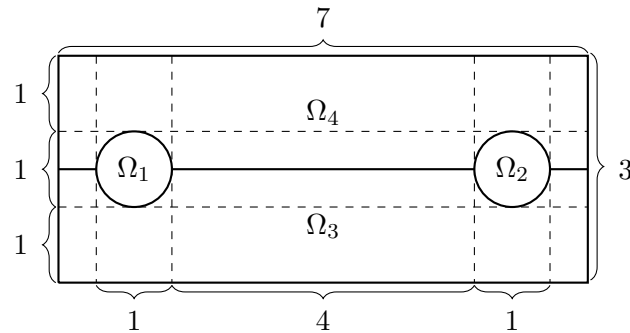

FIGURE 2.
**Exercise 2.** For this exercise we look at a more complex problem. Consider the geometry in figure 2, with  $\Omega = \Omega_1 \cup \Omega_2 \cup \Omega_3 \cup \Omega_4$  and boundary  $\Gamma = \partial\Omega$ .
- Draw the domain shown in figure 2 with PDE toolbox. This requires two rectangles and two circles. To make drawing easy, make suitable adjustments to the axes limits and gridlines in the **Options** menu.